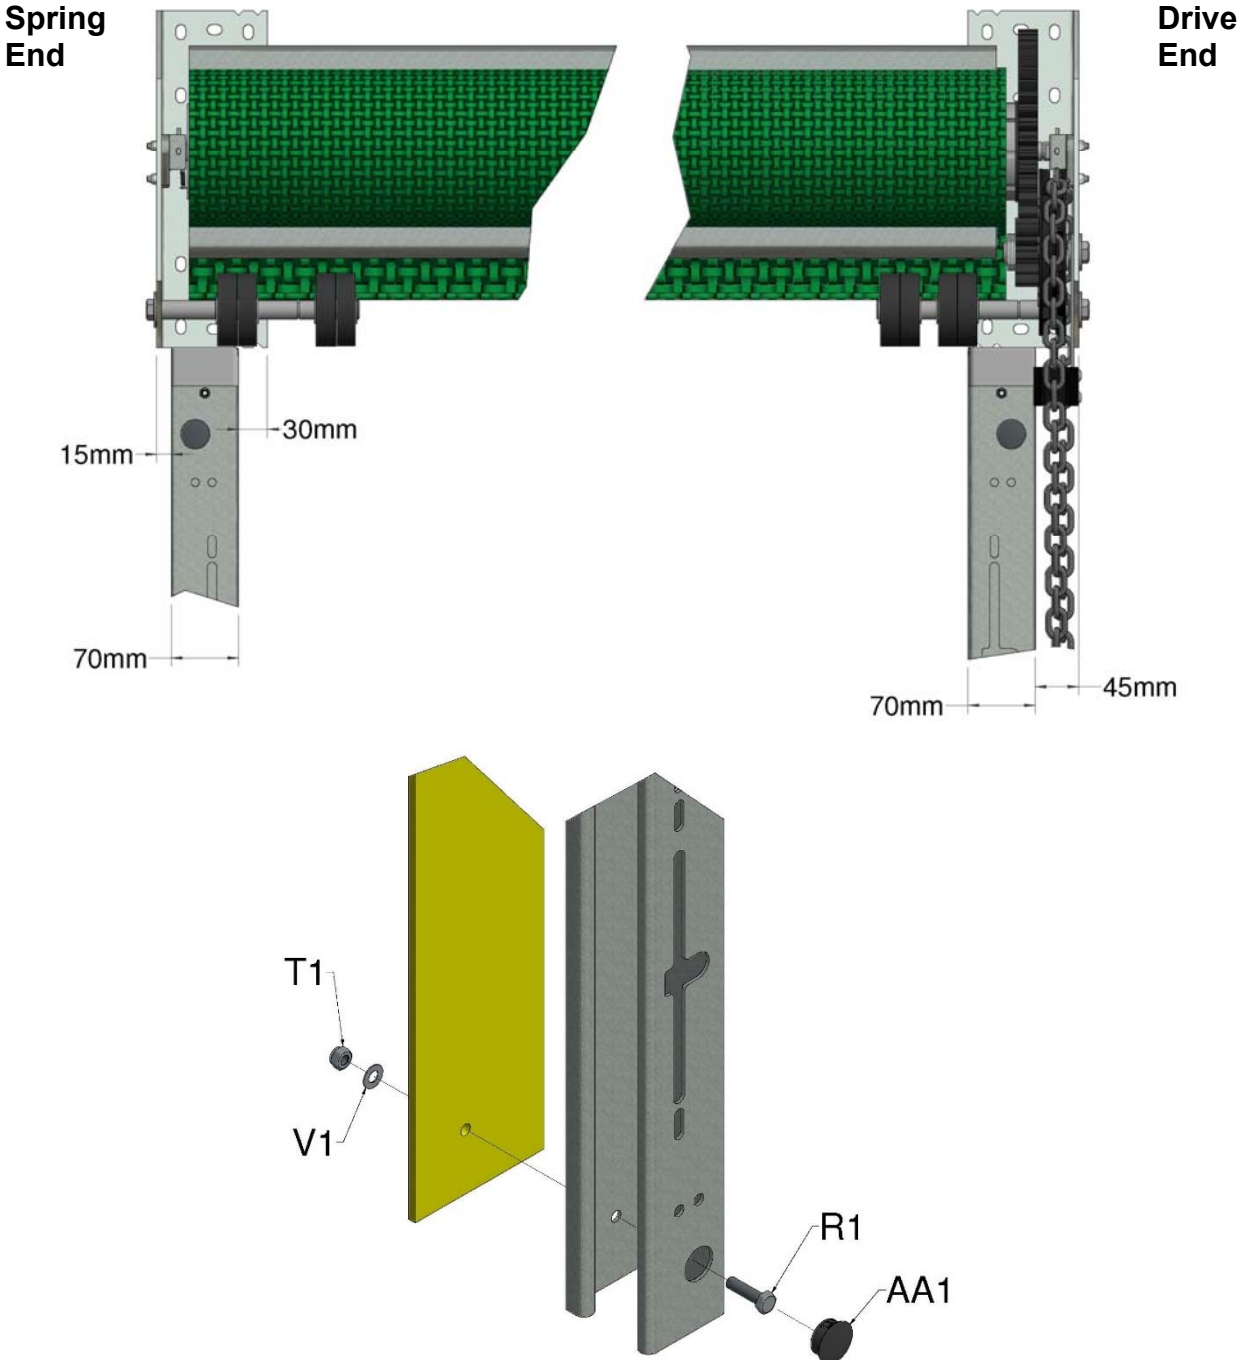

Figure 11, Bolting of the Guide Rails to Wall
10. Fit the guide rails to the building as shown in Figure 11 with M8 fixings using the pre-punched holes at 100cm centres.